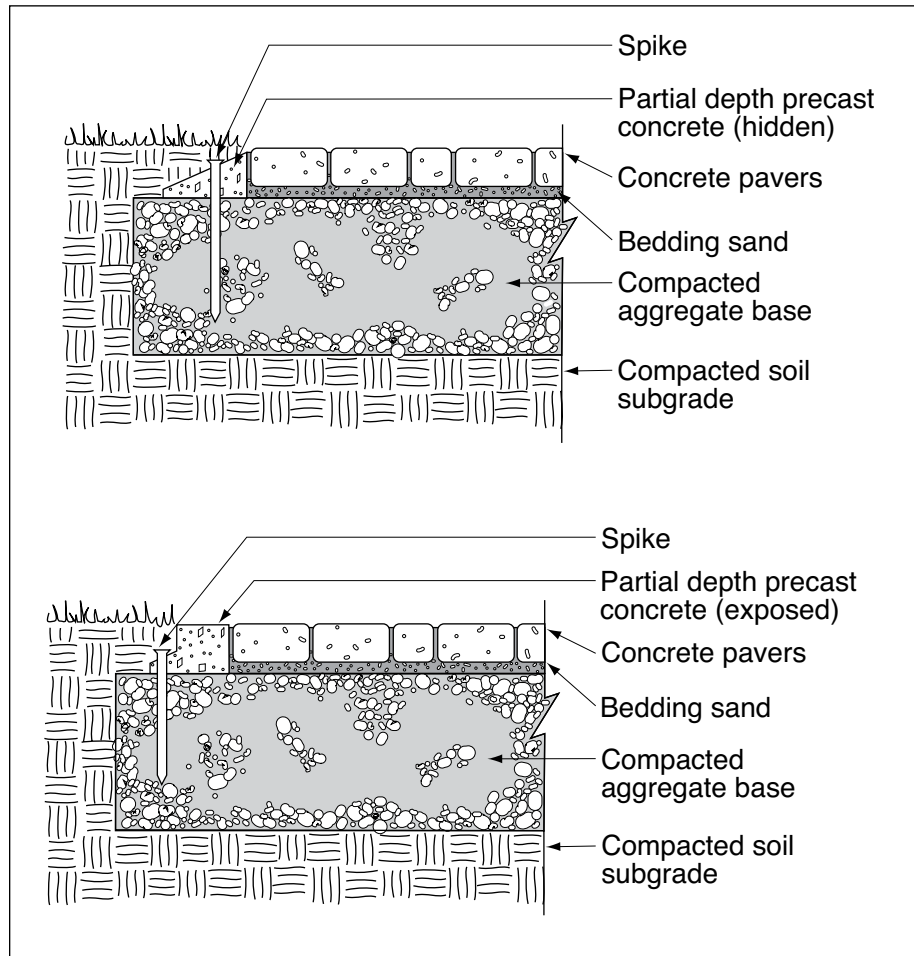

Figure 4. Partial depth precast concrete edge.
**Partial depth precast concrete** edge restraints may be used for residential and light duty commercial applications. (Figure 4). These precast units are anchored on a compacted aggregate base with steel spikes. The spikes are typically  $\frac{3}{8}$  in. (10 mm) diameter. Depending on the design, the top of the concrete edge can be hidden or exposed.